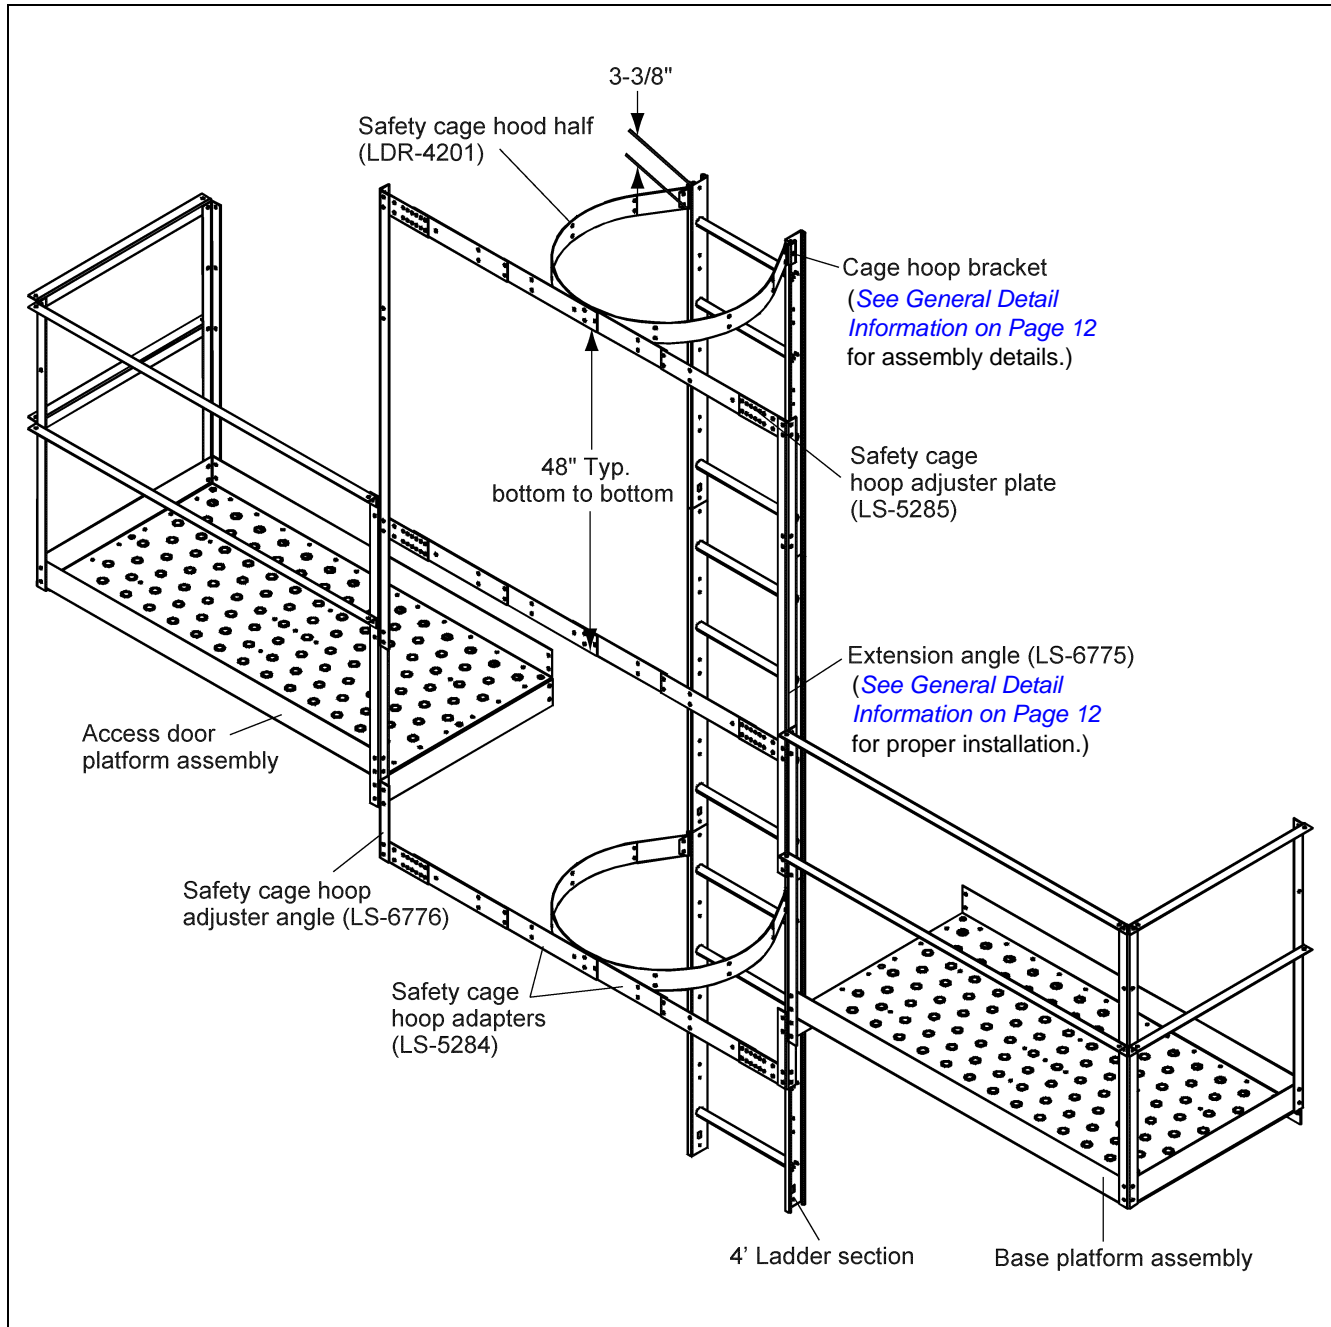

Figure 8Y
Before attaching any pieces to the ladder or platform, some pre-assembly is required. Attach the safety cage brackets to the ladder section. (*See General Detail Information on Page 12* for proper installation instructions). Bolt the safety cage hoop adjuster plates onto the extension angle as shown in *Figure 8Y*. For the middle hoop assembly, bolt the safety cage hoop adapters and safety cage hoop half together using the proper holes, based upon the bin diameter. (*See Page 101.*) Be sure to use the 5/16" x 3/4" bolt with the head of the bolt to the inside of the safety cage. Bolt this assembly to the safety cage bracket and hoop adjuster plate, tighten as you go. Use the safety cage hoop adjuster angle to secure the two (2) hoop half assemblies to the vertical entrance angle on the platform assembly. To finish the installation, secure the bottom hoop assembly to the vertical entrance angle on the platform assembly.